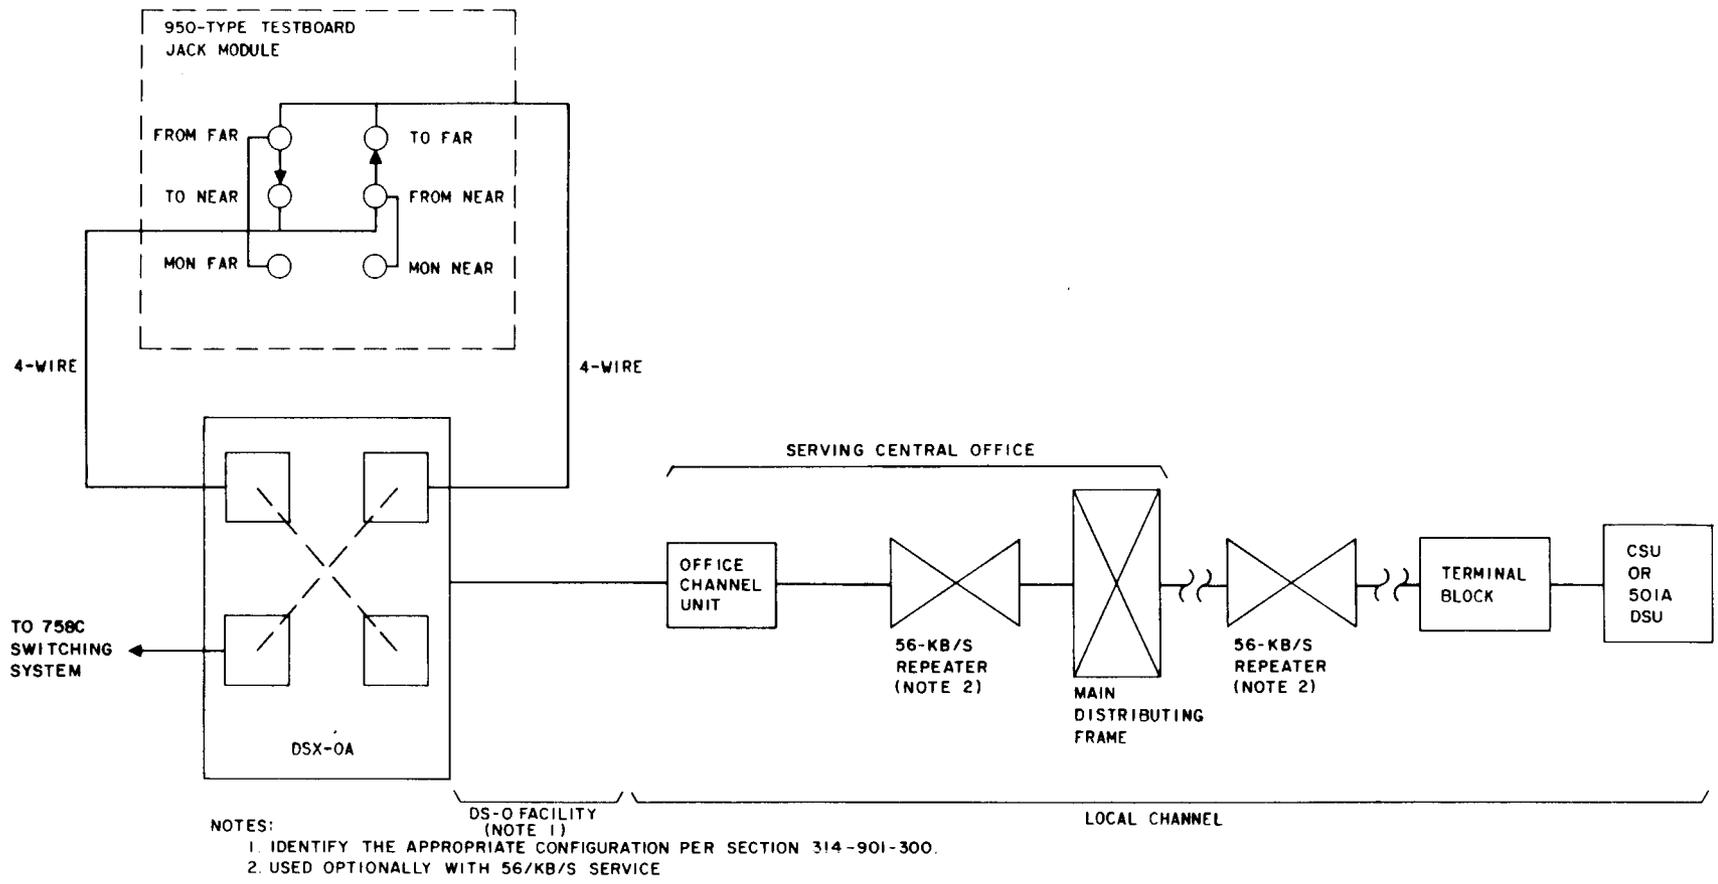
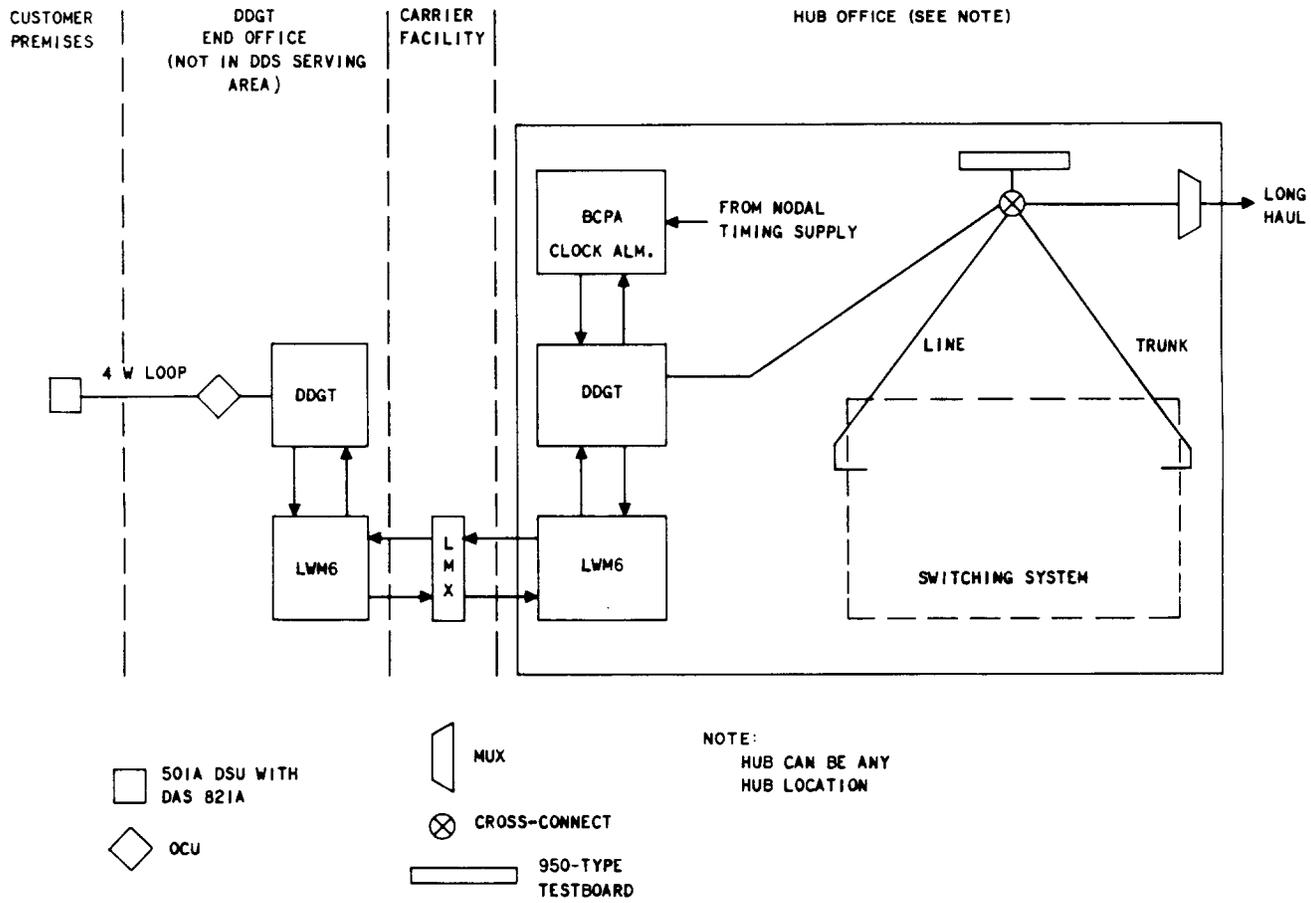

Fig. 2—Access Line
Fig. 3—56-kb/s Off-Net Extension Arrangement
2.02 Simplified details of the access line are shown in Fig. 2. A simplified circuit arrangement for a 56-kb/s off-net extension is illustrated in Fig. 3.